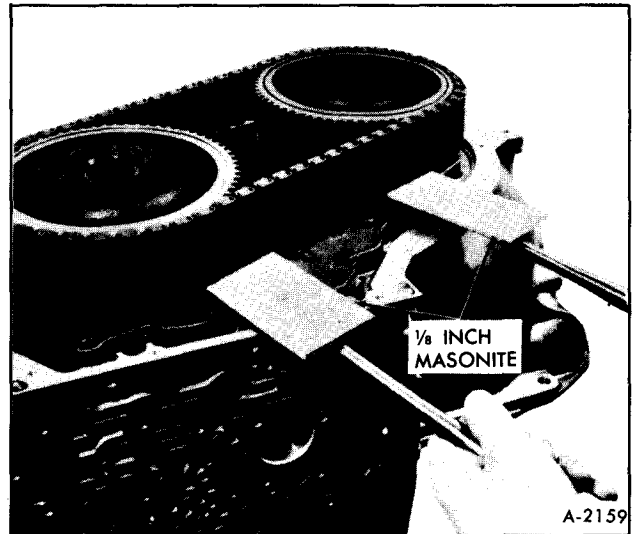

Figure 33—Removing Tight Sprockets
**NOTE:** If the sprockets are difficult to remove, place a small piece of fiberboard between the sprocket and sprocket support cover. Using a 1/2 x 9 inch pry bar, alternately pry upward under each sprocket on sprocket support cover. Do not pry on the guide links or the aluminum case. Pry only on the sprockets, Figure 33.